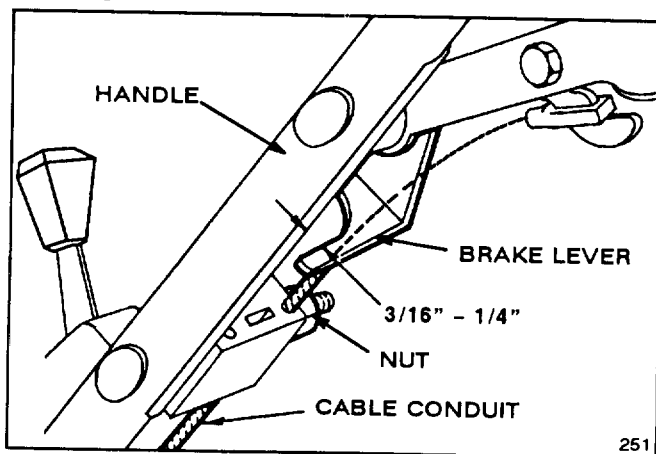

Figure 19
2. **CHECK ADJUSTMENT** (Fig. 19)—Move control bar toward handle until slack in wire is removed. Gap between brake lever and handle must be  $3/16"$ – $1/4"$ . See step 3 for adjustment.
3. **ADJUST CABLE CONDUIT** (Fig. 19)—Loosen nut on cable bracket. Insert  $3/16"$ – $1/4"$  object between brake lever and handle. Pull down on cable conduit until all slack is removed from wire. Then tighten nut.